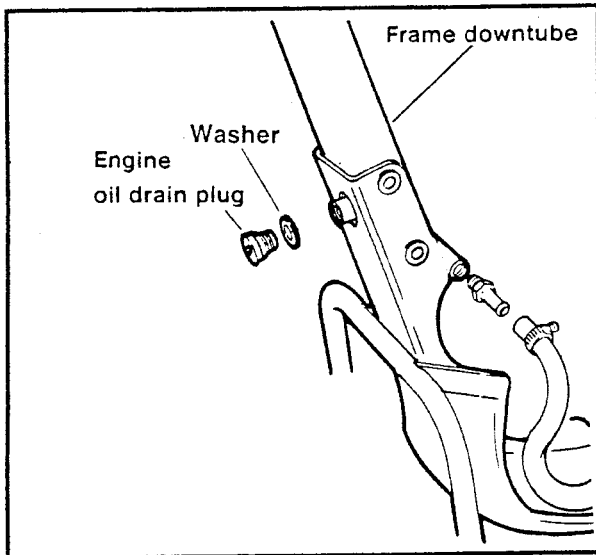

Figure 2-126. Front Frame Drain Plug and Engine Oil Strainer
1. See Figure 2-126. Drain the frame reservoir by removing the plug on the front frame downtube.